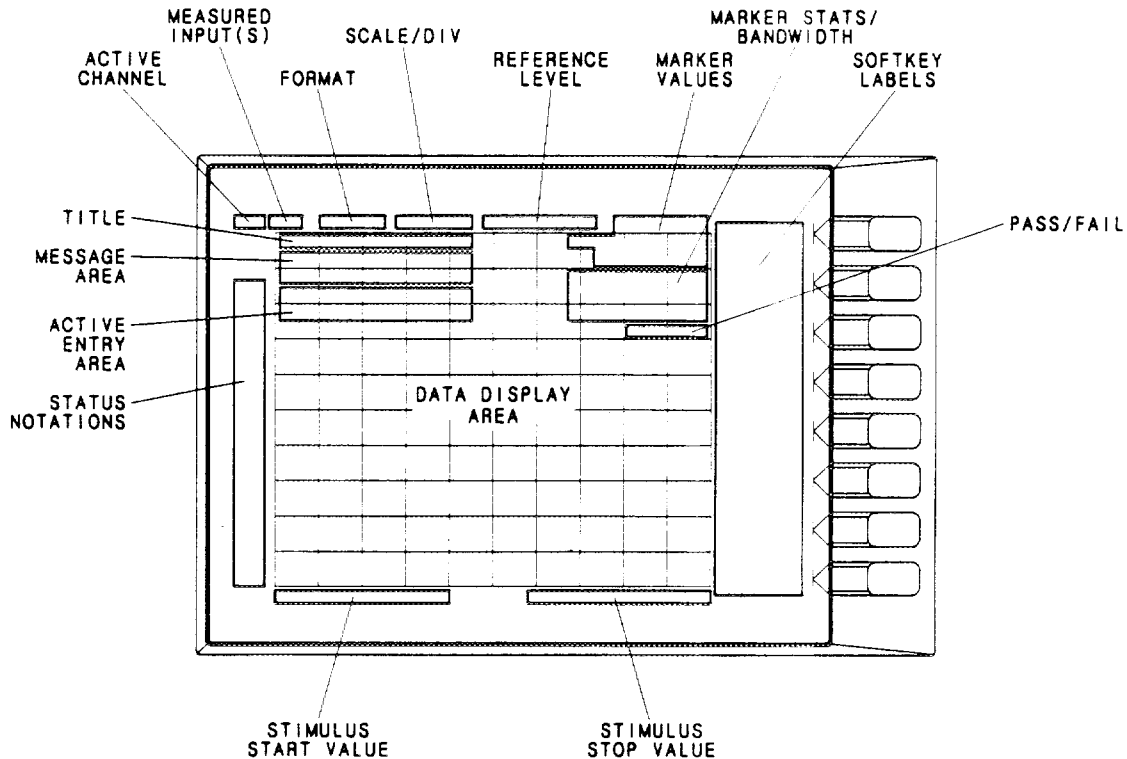

Figure 2-2. CRT Display (Single Channel, Cartesian Format)
2. CRT display. This is used for display of data traces, measurement annotation, softkey labels, and other information. The display is divided into specific information areas, illustrated in Figure 2-2.
The CRT displays the grid on which the measurement data is plotted, the currently selected measurement traces, and other information describing the measurement. Figure 2-2 illustrates the locations of the different CRT information labels, described below.
In addition to the full-screen display shown in Figure 2-2, a split display is available, as described under *[DISPLAY] Key, Display More Menu* in Chapter 4. In this case, information labels are provided for each half of the display.